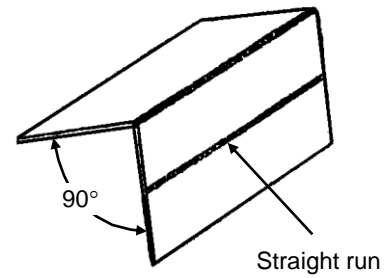

FIG 15.
3. Weld a straight run across one plate. (See Fig 15)